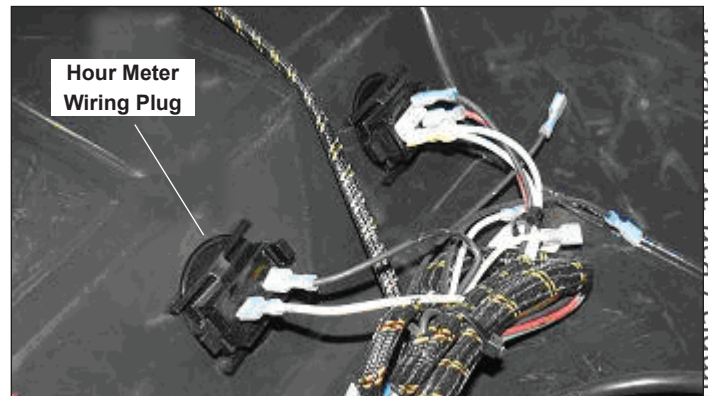

Figure 8-6. Hour Meter Wiring
2. Remove wires from back of hour meter. Figure 8-6. Remove retainer from back side of console and remove hour meter.